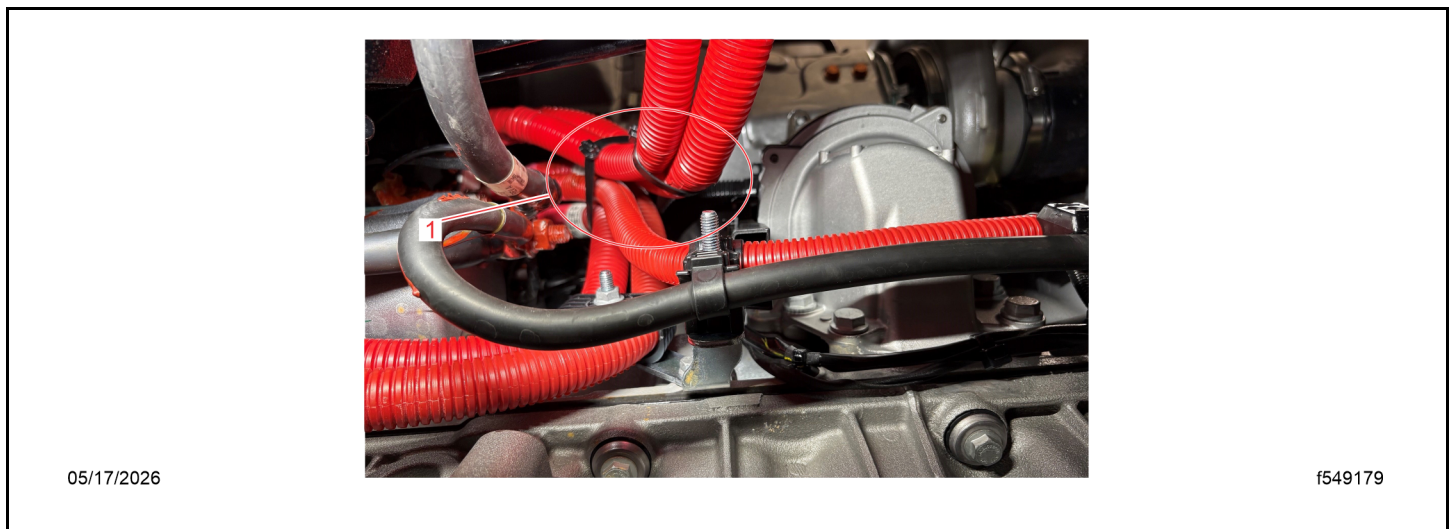

Fig 110, Securing the Cables
29. Route the jump-start/auxiliary BCA cables from the starter to the lower frame rail support bracket using the new routing clamps (23-14775-002) sized for 2/0 and 4/0 cables. See Fig. Fig. 110.